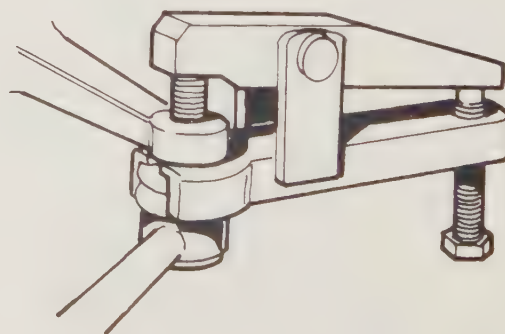

Fig. 8.5. Removing the tie-rod balljoint from the knuckle arm
- 2 Pull out the cotter pin, unscrew the castle nut and remove the tie-rod end ball joint from the knuckle arm of the housing. For this you will need a ball joint separator of which there are several types, one shown in Fig. 8.5.